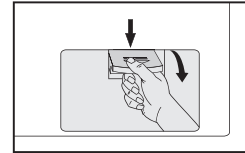

Fig 18
1. After the power is disconnected, use hand to open the filter cover (Fig 18).